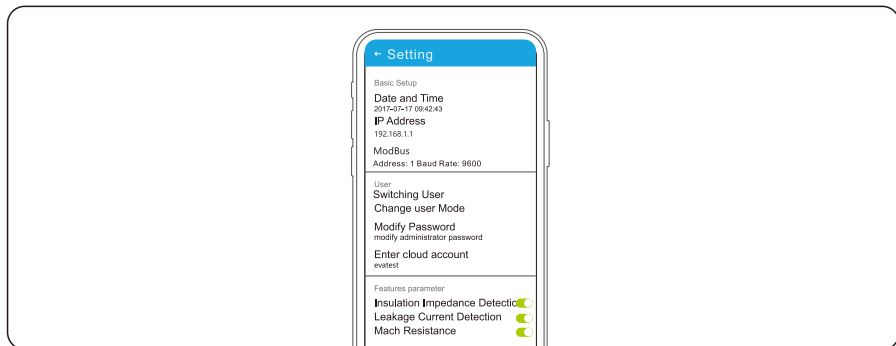

Figure 5.24 Setting Mach Resistances
Step 4 You can set Mach Resistance of the end of multi-RS485 connection chain, as shown in Figure 5.24.